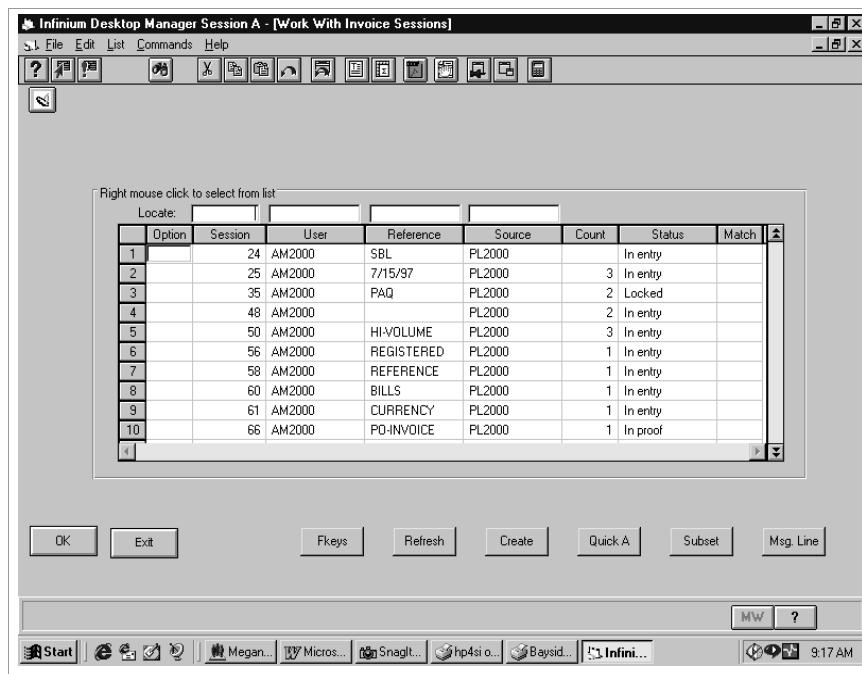

Figure 7-7: Work With Invoice Sessions screen
- 2 Select *Work with invoice entry [WWI]*. The system displays the screen shown in Figure 7-7.